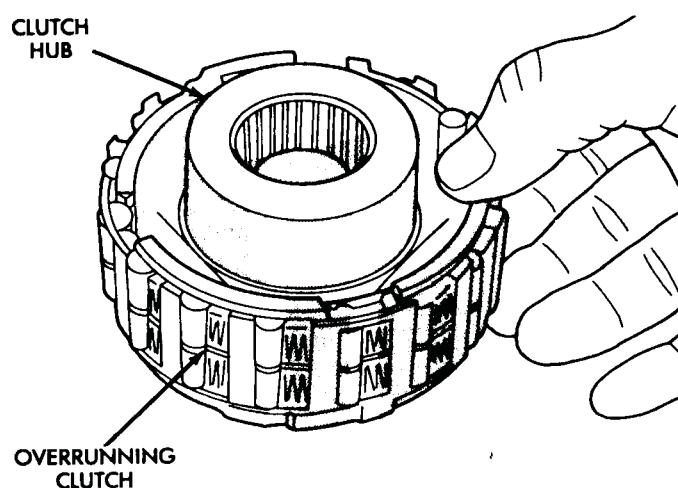

Fig. 48 Assembling Overrunning Clutch And Hub
(9) Install overrunning clutch on hub (Fig. 48). Note that clutch only fits one way. Shoulder on clutch should seat in small recess at edge of hub.